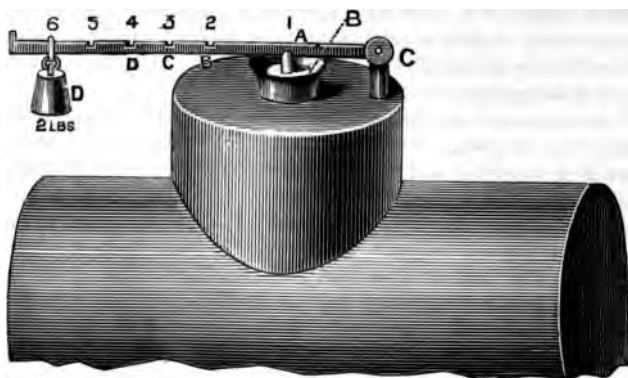
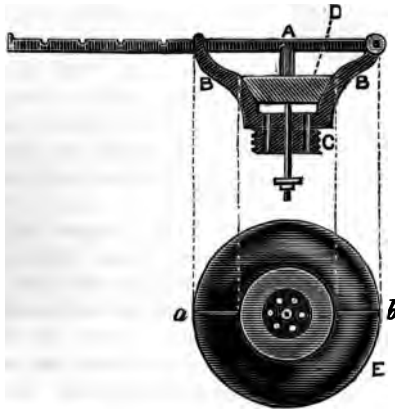
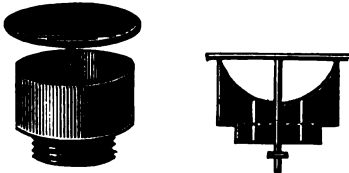

FIG. 76.—FLAT TOPPED STEAM DOME, WITH LEVER SAFETY VALVE.
FIG. 77.—SECTIONAL DRAWING OF SAFETY VALVE.
FIG. 78.—FORM OF SAFETY VALVE.
In Fig. 76, p. 170, a flat-topped steam dome filed out and fitted is represented as carrying a lever safety-valve. This essential of a steam boiler, if safe working is to be guaranteed, consists of a short hollow plug screwed or soldered into the top of the boiler and turned truly in the hollowed part to a conical form, to carry a valve or plug by which it is closed steam tight. This plug is so placed as to be held down in its seat by a lever carrying an adjustable weight, by which the pressure upon it can be accurately regulated. The valve and its seat must be turned to a blunt cone, because otherwise it is sure to stick fast, and this may cause a dangerous explosion. I will presently show one or
A safety valve may be made with or without a spindle to guide it in its ascent. In a small model such spindle would be omitted. It has a certain advantage, however, irrespective of acting as a guide, inasmuch as it prevents the valve from falling off and getting lost. In the illustrations, Fig. 77 (A) is a sectional drawing of a safety valve, Fig. 76 showing the perspective view of it with the plug and lever. A bit of brass is turned to a neat cup form (B), and the bottom, which
Fig. 76 shows another neat form. Here the brass is turned flat on the top with a milled edge, and a conical valve seat is made. The lever is pivoted in a short turned pillar screwed into the flat top of the piece. Fig. 78 is another pattern. In this case the brass is turned out like a small box, with a sharp edge, which must be very true. The valve is a flat disc, with a spindle to guide it, and it lies flat on the
In all cases where spindles are used they should be of copper or brass wire, preferably copper wire, which will not rust. Copper wire can be made straight as a needle by putting one end in the vice, and then pulling till it is felt to stretch slightly. This will take out every sign of coil or irregularity. A needle will do, however, or steel wire if the valve is lifted out and the spindle wiped after and before use, but it may give trouble, and it is easy to get copper wire or brass. It may be as well to state, in order to facilitate a knowledge of the pressure actually tending to burst a boiler, that in the case of a lever safety valve the pressure equals the weight suspended multiplied by its distance from the fulcrum. If Fig. 76 represents such a lever with weight of 2lb., C, the fulcrum, and A, the position of the valve, the distance of the latter from the fulcrum originating the scale of distances on the lever, the pressure will be 2lb. with the weight at 4lb. at B, 6lb. at C, and 8lb. at D. If the valve is of an inch area, these numbers would represent the pressure in pounds per inch. If, as suggested, the valve is $\frac{1}{4}$ in. area, these pressures, multiplied by four, will give the pressure per inch. It is not very likely in practice that a 2lb. or 1lb. weight would be used on so small a boiler.